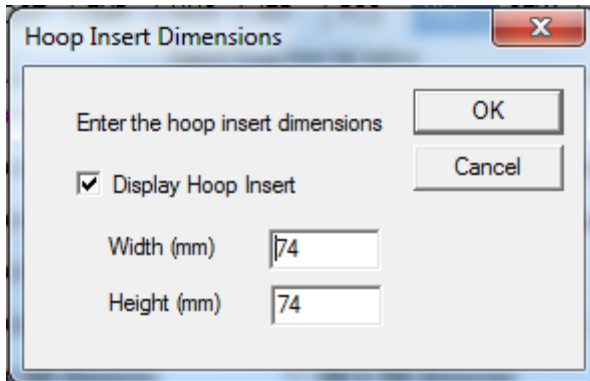

Fig 3 Dialog for displaying and setting the Hoop Insert dimensions
- **Hoop Insert** Displays (or hides) a user-selectable hoop insert (for example, a "Fast Frame"). When this button is clicked, the hoop insert dimensions dialog is displayed (see Fig. 3). You can set the width and height for the insert hoop, and whether or not it will be displayed in the **SewWhat-Pro** workspace. If the width or height of the insert exceeds the hoop dimensions, it will not be displayed even if the display check box is checked.